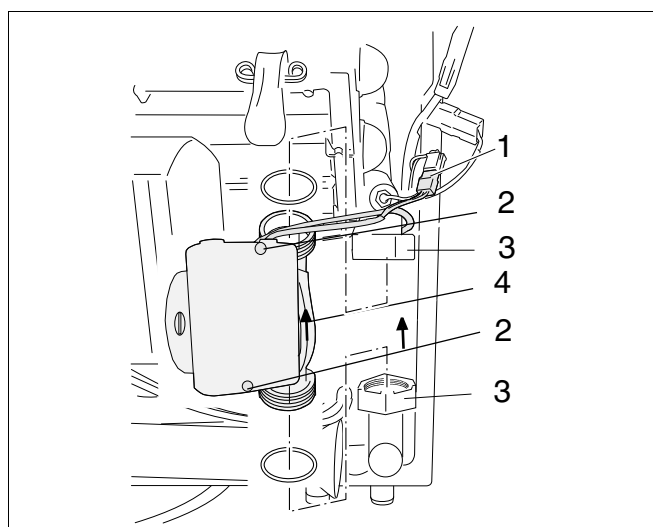

fig. 62 Replacing the modulating pump
- Disconnect the system from the power supply (fig. 62, item 1).
- Loosen screws on modulating pump terminal box and open terminal box (fig. 62, item 2).
- Loosen modulating pump screw-in adapters and remove pump (fig. 62, item 3).
- Fit new pump and connect to system (fig. 62, item 4).